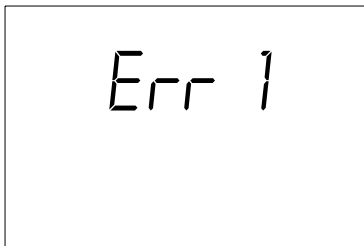

Figure 23: Error message on LCD
4. To toggle between pH and conductivity readings, press the MODE key. See Figures 23 and 24.